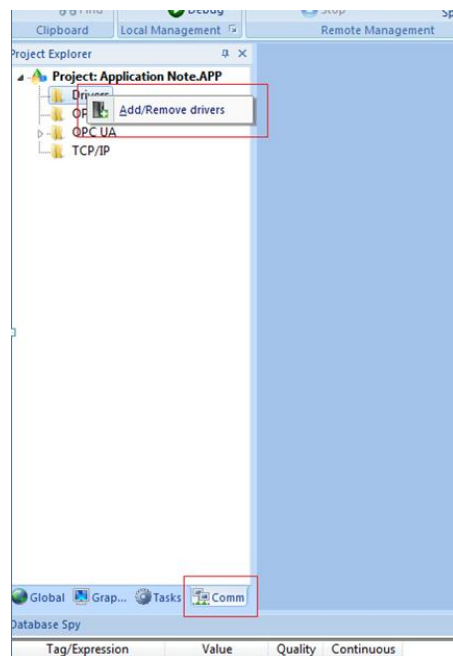

FIGURE 1: CREATING A DRIVER SHEET.
Step 1: Create a driver sheet in InduSoft Web Studio by navigating to the **Comm** tab, right clicking the **Driver** folder, and selecting **Add/Remove drivers** (Figure 1).